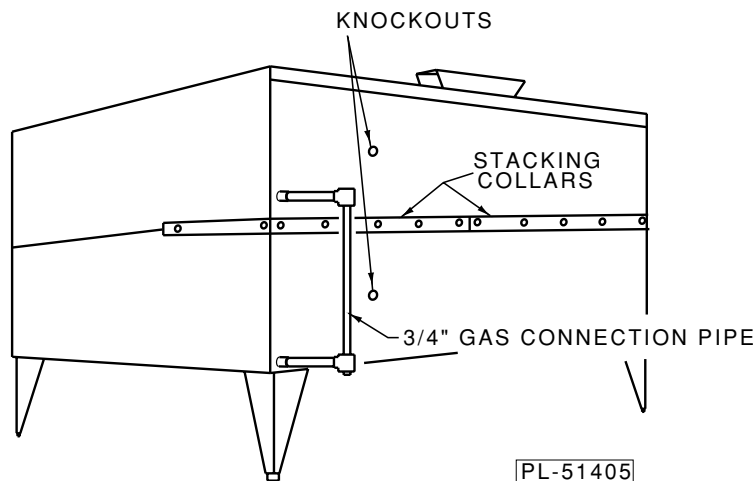

Fig. 2
2. Secure both ovens together with 1 right and 1 left stacking collar (Fig. 2). Fasten collars to ovens using 14 #10-24 screws provided.
3. Install the  $\frac{3}{4}$ " gas connection pipe (Fig. 2).
To install the nozzle(s), remove the knockout(s) (Fig. 2) from the back of the oven and the plug(s) from the oven cavity. Insert the nozzle(s) provided.